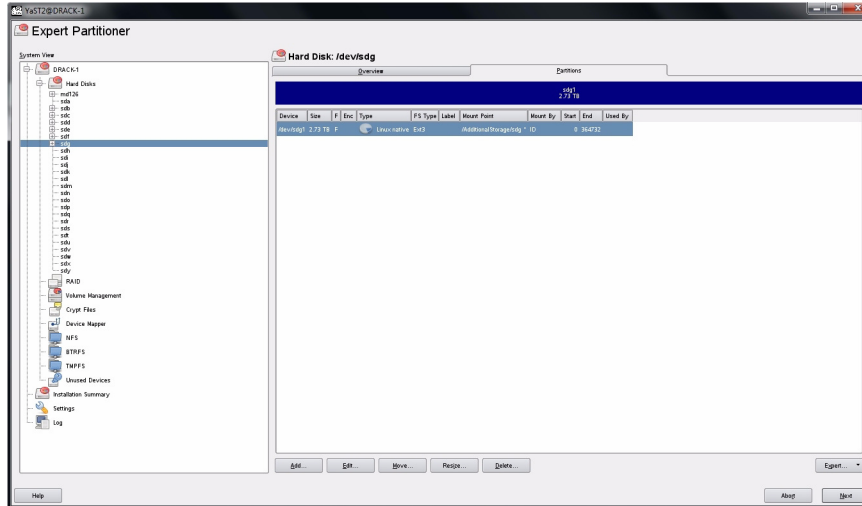

Figure 3-28 YaST2 – Check for Partition
- Verify the partition shows up (Figure 3-28) and click **Next**.